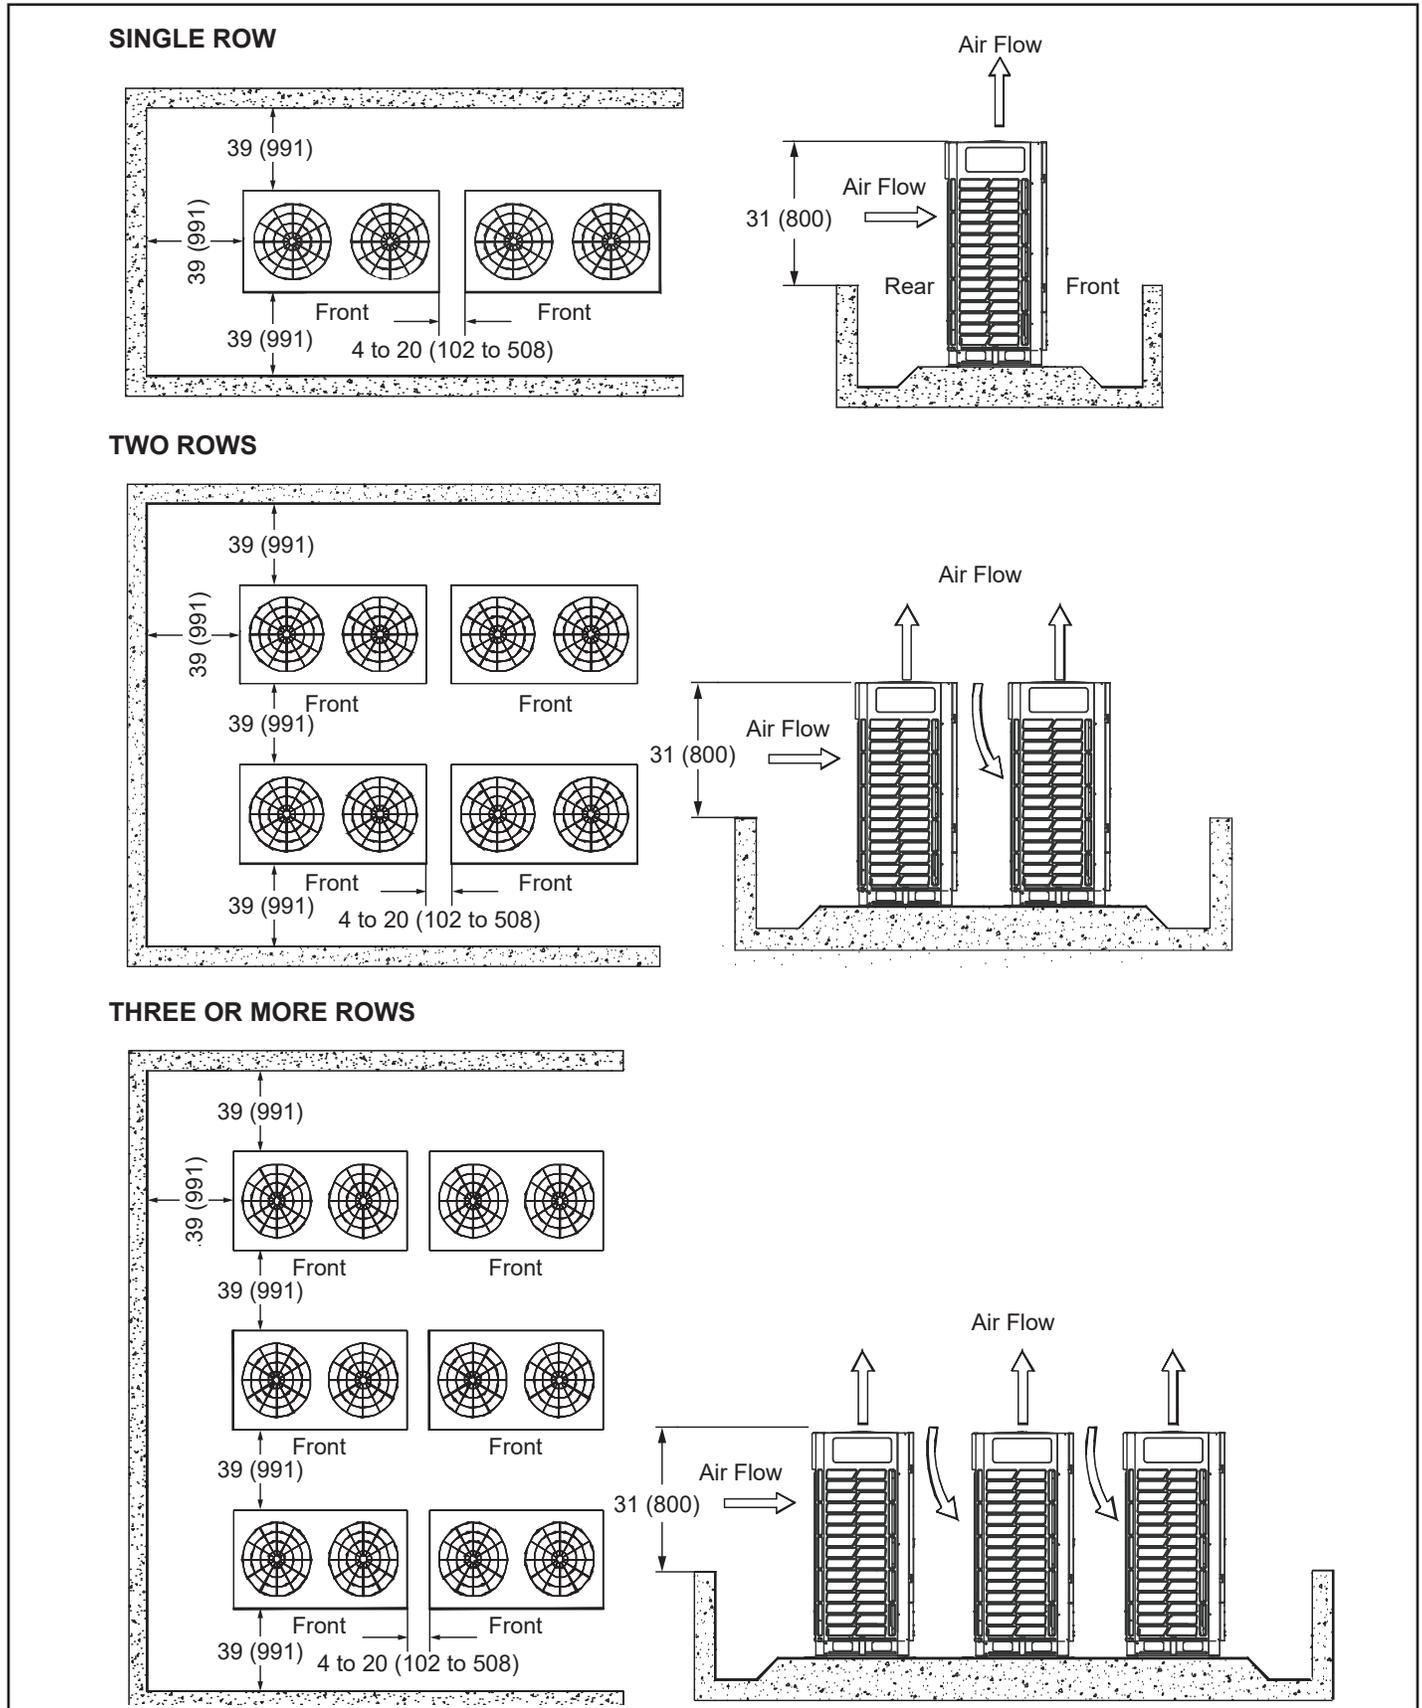

Figure 1. Installation Clearances - inches (mm)
- Allow adequate air flow clearance on all sides of the unit. See Figure 1 and this section.